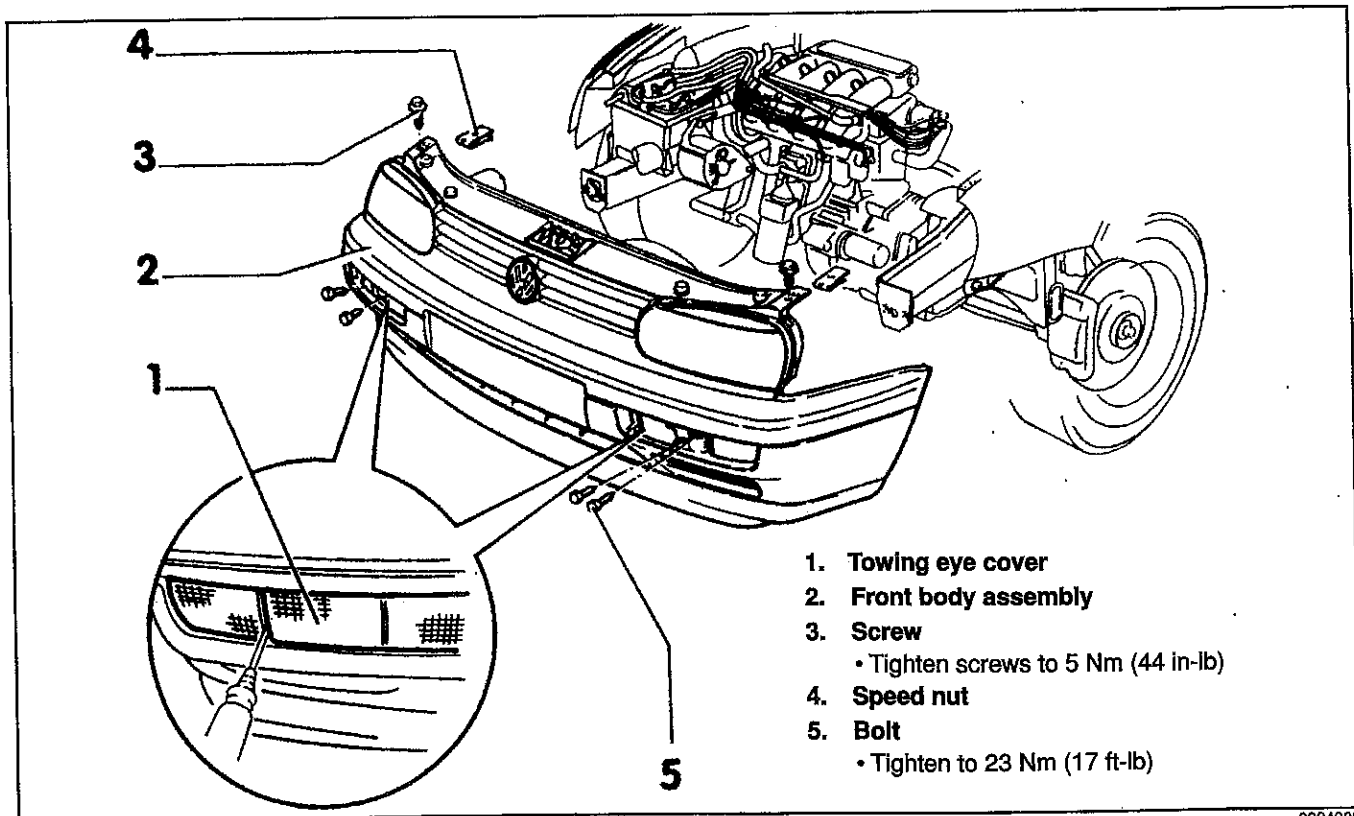

Fig. 2. Front body assembly. Be sure to remove lower screws from wheel housing trim (not shown).
- Remove the front body assembly mounting bolts. Disconnect all electrical connectors and hose brackets from the assembly. Disconnect the hood release cable. Remove the complete assembly with all attachments. See Fig. 2. See also **50 Body-Front**.
3. Install the front body assembly using Fig. 2 as a guide. Make sure the assembly is stress free before tightening the bolts.